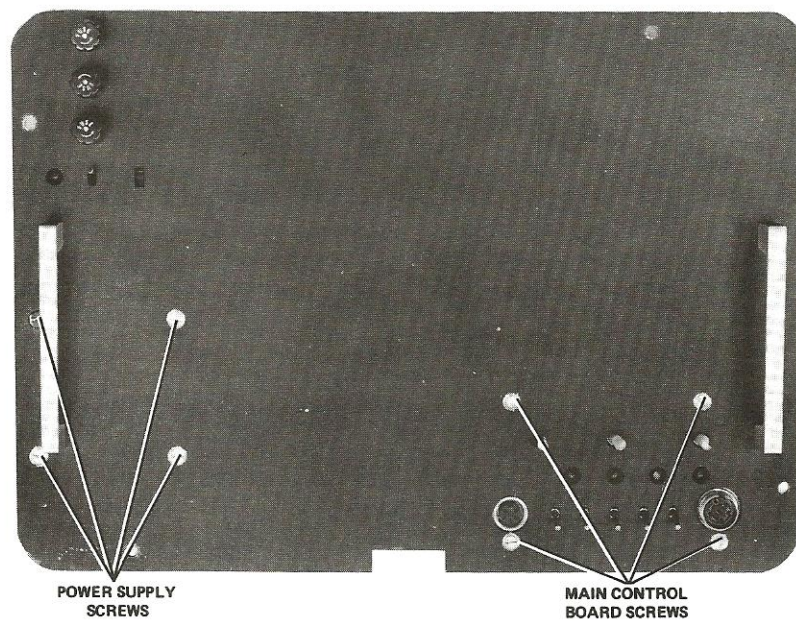
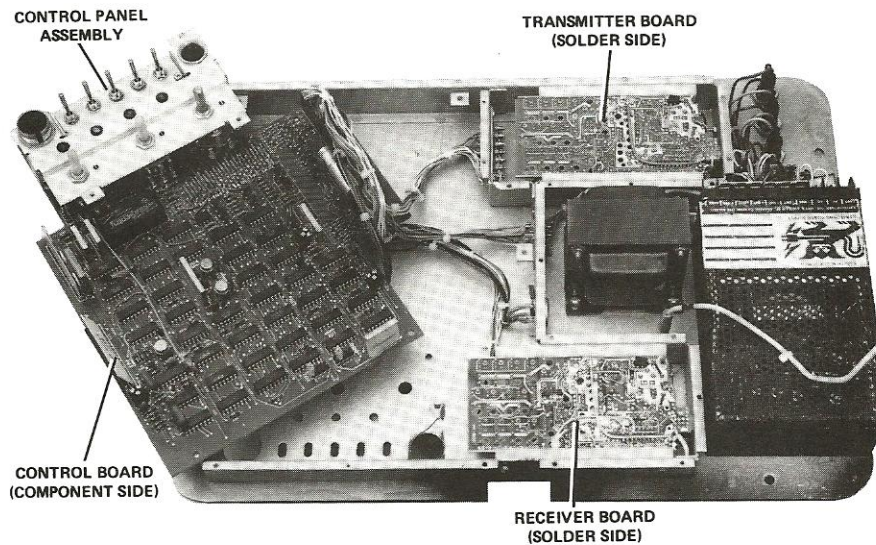

Figure 4-3. Top Panel Showing Screw Locations
Figure 4-4. Main Control, Transmitter, and Receiver Boards
(1) Remove four flat-head slotted screws from the top of the control panel (Figure 4-3) while holding power supply.
(2) Remove seven wires from power supply and lift from the unit.
d. **Transmitter and Receiver Board Removal (Figures 4-4 and 4-5)**